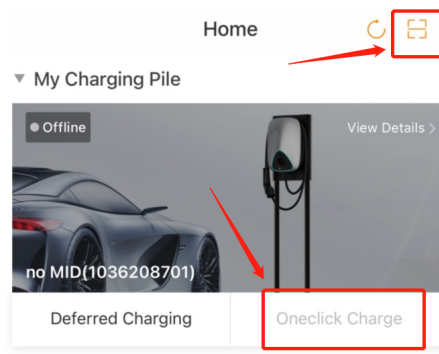

Figure 15: Mobile client interface
1. Open "Star Charge" or third-party app, click the QR code scan function and scan the QR code on the front of the Aurora, after successfully binded, click "Oneclick Charge" to start charging, as shown in Figure 15.